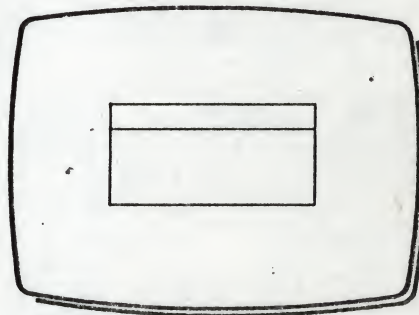

Fig 3
- 4 Remove a few lines from the drawing (Fig 3).